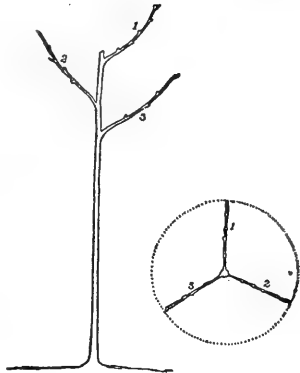

Fig. 81.—Shows a three branch tree at the end of the first season's growth.
4. Cut back to an outside bud, the shoots 1, 2, 3, from one-third to one-half of the last year's growth. Fig. 81.
5. Leave the buds so arranged that the first year's shoot will subdivide; as in Fig. 81.